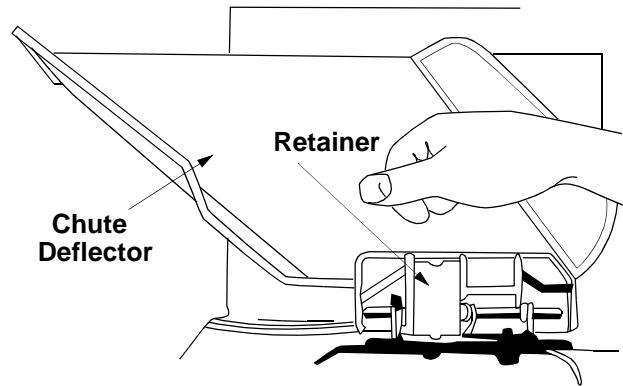

Figure 5
2. Remove the retainer and carefully lower the chute into operating position, keeping fingers out of the way. See Figure 5.